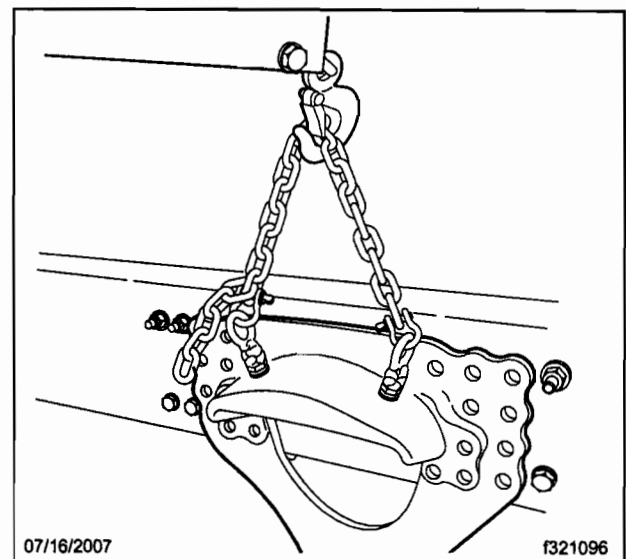

Fig. 7, Supporting the Frame Bracket with a Hoist
11. Support the frame bracket with the hoist, remove the bracket bolts, then lower the bracket to the ground. See Fig. 7.